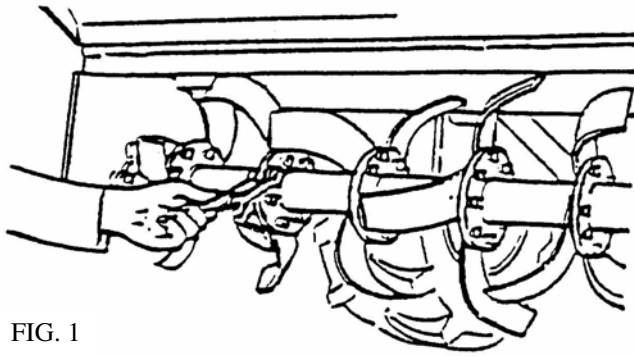

FIG. 1
- Check for loose bolts that fix the blades to the rotor. Tighten as needed (see fig. 1).